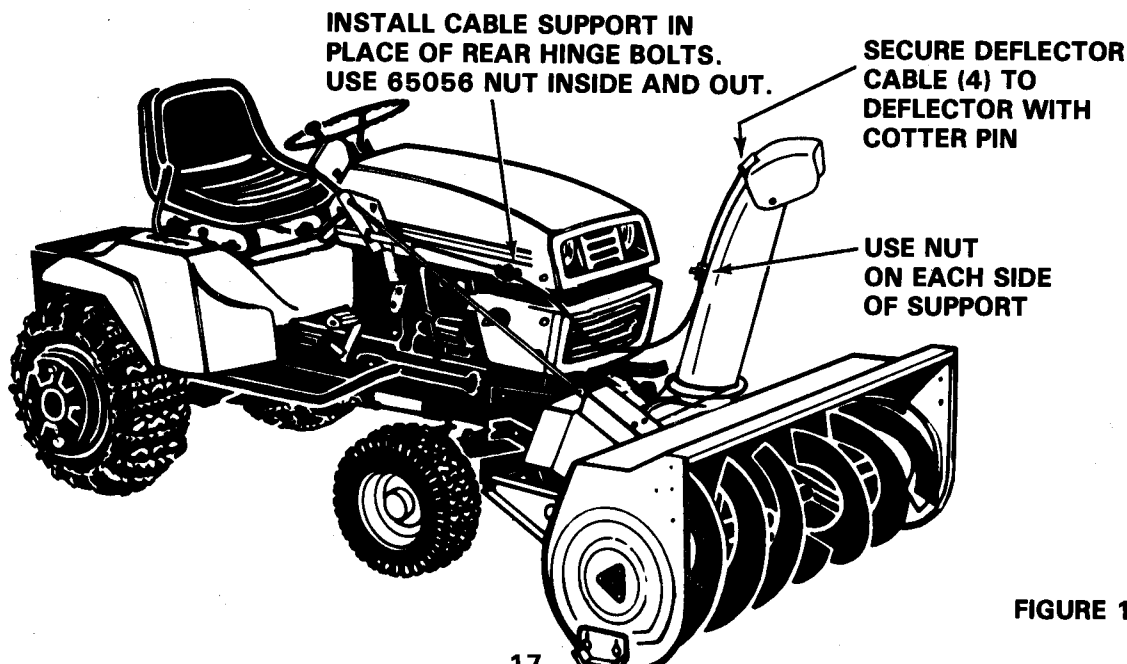

FIGURE 18
10. Install Cable Support in the hole in the hood and hinges as shown in Figure 18. Remove the cap screw and insert the Cable Support in its place. use a Whizlock Nut inside and outside the hood.
11. Install the Deflector Control Cable, See Figure 18. Install the handle end through the lower hole in the Chute Crank Support and secure with the washer and jam nut on the cable. Install the T-Handle. Install the end of the cable through the tab on the deflector and secure with the Cotter Pin. Loosen one of the jam nuts, slip the cable into the slot on the tab on the Chute, and tighten the jam nuts to secure the cable.